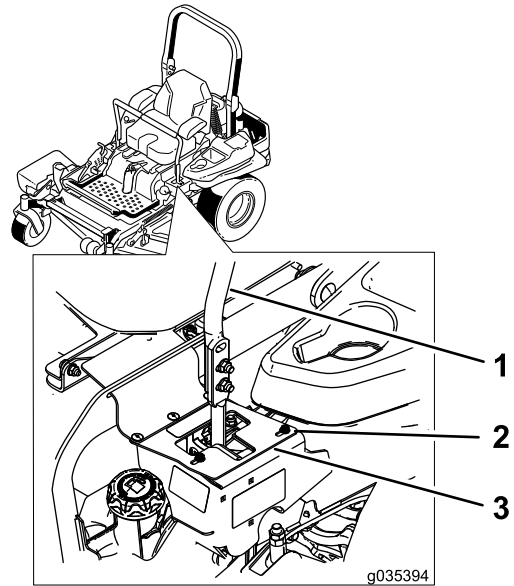

Figure 68
6. If it tracks to the right, loosen the bolts and adjust the left stop plate rearward on the left T-slot until the machine tracks straight (Figure 68).
7. If it tracks to the left, loosen the bolts and adjust the right stop plate rearward on the right T-slot until the machine tracks straight (Figure 68).
8. Tighten the stop plate (Figure 68).